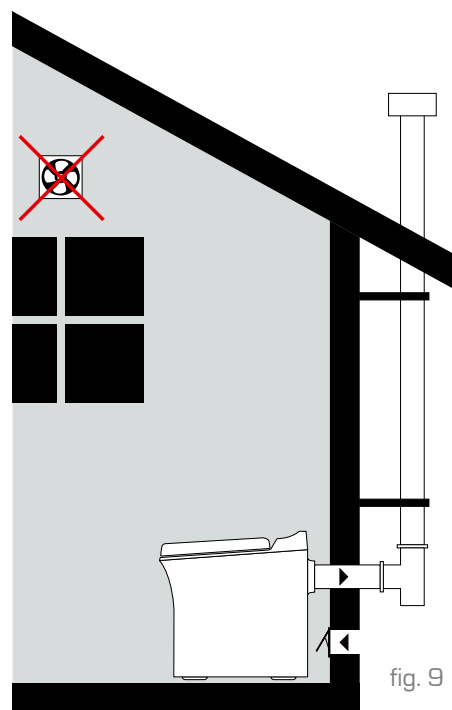

fig. 9
- Make sure that there is no conflict between the toilet's air supply and other installations, such as a fireplace or extractor fan (fig. 9).